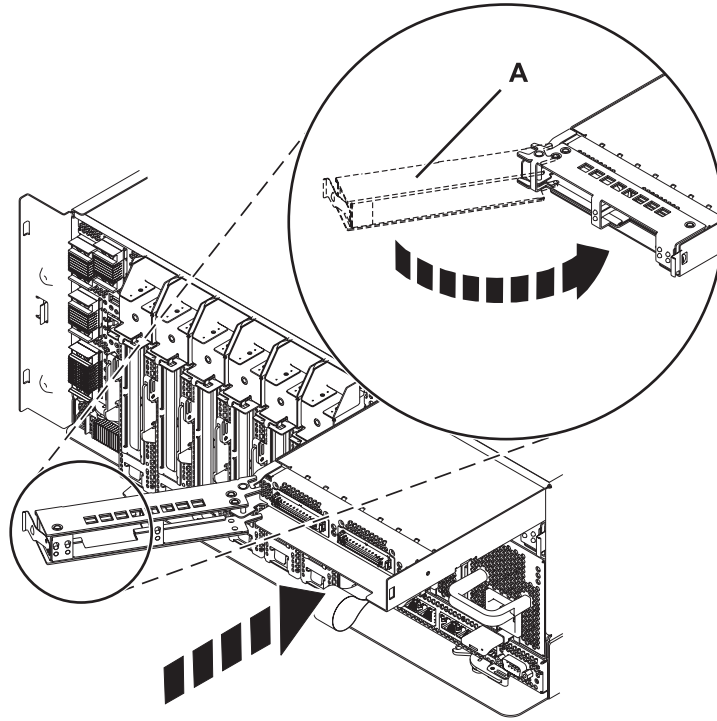

Figure 4. Installing a GX adapter in the system
6. Move the handle (A), shown in Figure 4 on page 13, toward the system until the handle stops against the adapter.